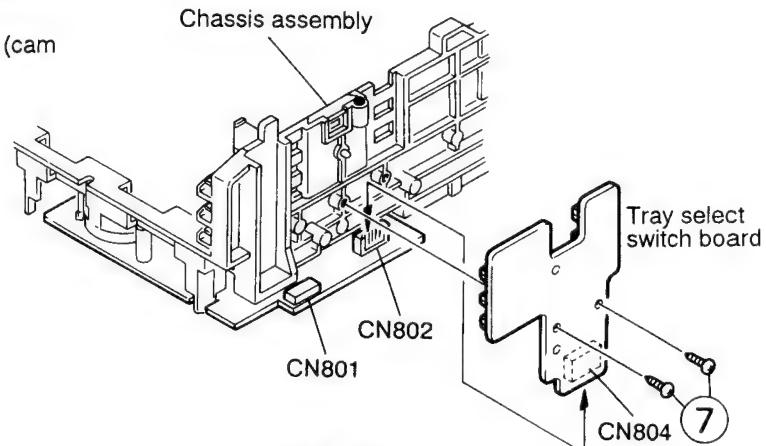

Fig. 5-36
- Remove the two screws (6) retaining the actuator motor board (See Fig. 5-36).
- Remove the two screws (7) retaining the tray select switch board (See Fig. 5-36).